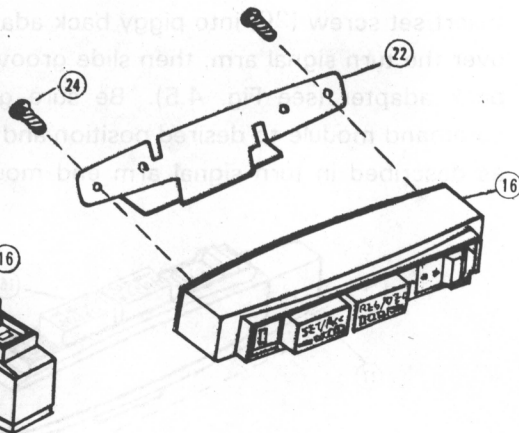

Figure 4.7
C. DASH AND CONSOLE MOUNTING—FIG. 4.7
When mounting on dash or console, first you need to separate the command module(16)and command module adapter(17)by removing the two screws on the back of command module adapter(17). Do not use module adapter(17). Attach command module and its rear cover directly to mounting stand(22), see Fig. 4.7. Route wire harness through slot in stand and secure stand to module using two short # 2x3/8" screws(24).CAUTION: Do not use the original screws to attach stand. Stand may either be screwed to dash or console, or held in place with the supplied double stick foam tape (23).